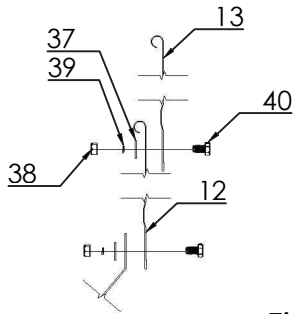

Figure 4
12. Now go to the seam opposite the bracket. Adjust the hopper top until it is level with the opposite side. The distance from the top of the hopper bottom to the top of the hopper top is approximately 16 1/4-in. Drill a 1/4-in. hole through the fiberglass and install bolts, flat washers, lock washers, and nuts, Ref. No. 40, 37, 39, & 38. Continue to work diagonally around the hopper until all the bolts are installed. Tighten all fasteners until snug. **DO NOT OVERTIGHTEN THE BOLTS ON THE FIBERGLASS.** (See Figure 4)
14. For WF60 or greater, bolt shell- w/o cone adjust holes to shell already installed. Use bolts, flat washers, lock washers, and nuts, Ref. No. 40, 37, 39, & 38. (See Figure 4)